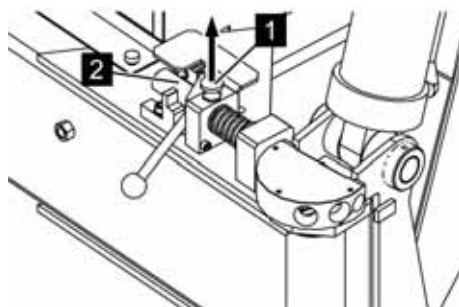

Fig. 57: Loosening the latching
1. ➔ Pull the locking pin (Fig. 57/1) upwards until the latching bolt (Fig. 57/2) turns freely.